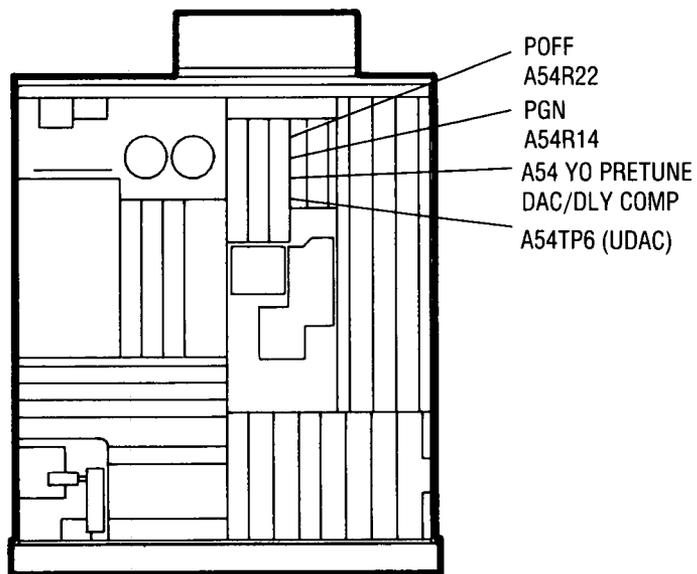

Figure 5-14. YO Pretune DAC Gain Adjustments Location
3. Connect the DVM to ~~A54TP6 (VDAC)~~ and adjust A54R22 (POFF, Figure 5-14) for -5.75 ± 0.001 Vdc.
5. Adjust A54R14 (PGN, Figure 5-14) for -17.5 ± 0.001 Vdc.